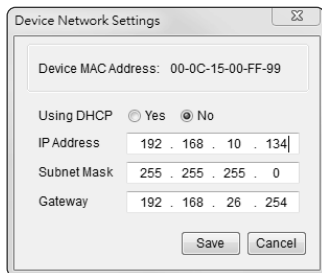

Figure 2. The Device Network setting window
5. You can modify the IP Address, Subnet Mask, and Gateway address for the Device MAC Address listed in the Device Network Settings window, as shown in Figure 2. **The factory default IP Address is 192.168.20.177** and the default Subnet Mask is 255.255.255.0.